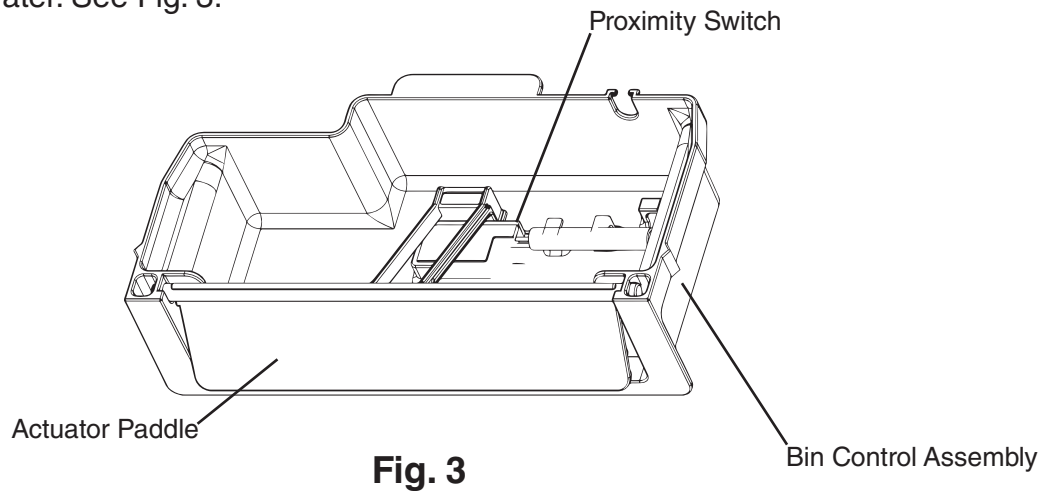

Fig. 3
- 6) Wipe down the switch mount and actuator paddle with 1 part of Hoshizaki "Scale Away" and 25 Parts warm water. Rinse the switch mount and actuator paddle thoroughly with clean water. See Fig. 3.